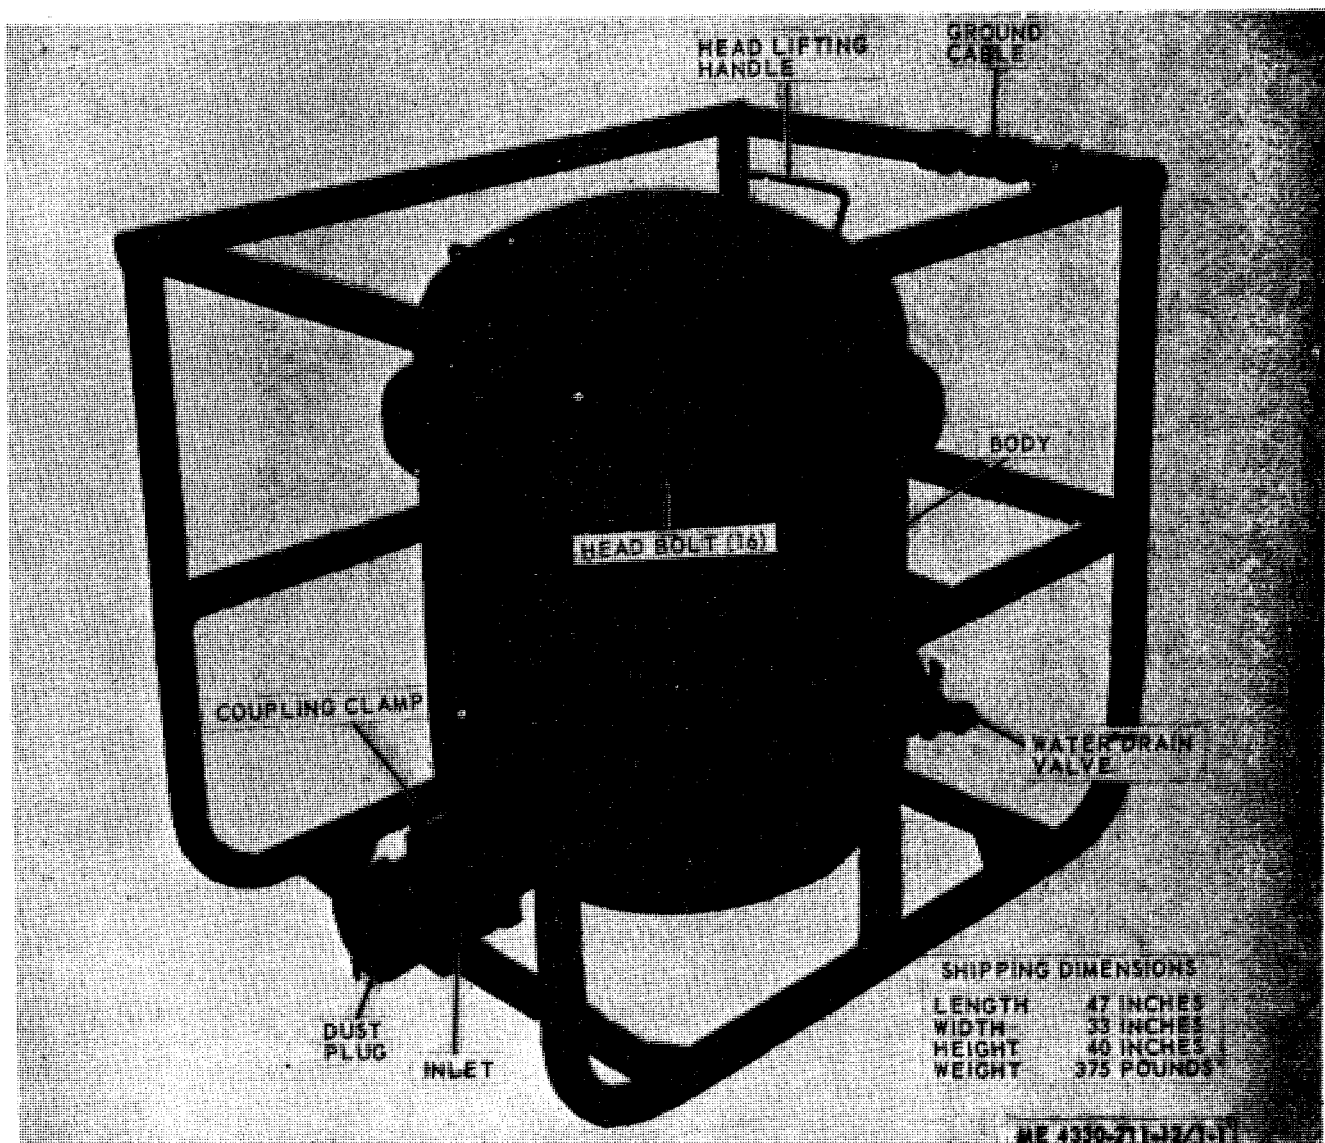

Figure 1-1. Filter-separator, 3/4-right front view, with shipping dimensions.
a. General. The 350 GPM (gallons per minute) optimum performance filter-separator is a two stage vertical-type unit designed to remove undissolved water and solid contaminants from military fuels. The filter-separator (fig. 1-1 and 1-2) has a water level indicator (sight gage), a manual water drain valve, and a differential pressure indicator.